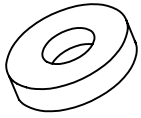

FIG. 1
1. **WEATHER WARNING ! DO NOT ERECT YOUR BUILDING ON A WINDY DAY. ANY BUILDING LEFT PARTIALLY CONSTRUCTED MAY BE SERIOUSLY DAMAGED (FIG.1).**
3. **ALL ASSEMBLY OPERATIONS MUST TAKE PLACE ON A COMPLETELY LEVEL SURFACE (FIG. 1)**
PARTIELLEMENT MONTÉ, LES PIÈCES POUVANT ÊTRE ENDOMMAGÉES (FIG. 1).
3. **TOUTES LES OPÉRATIONS DE MONTAGE DOIVENT ÊTRE RÉALISÉES SUR UNE SURFACE PLANE (fig 1).**